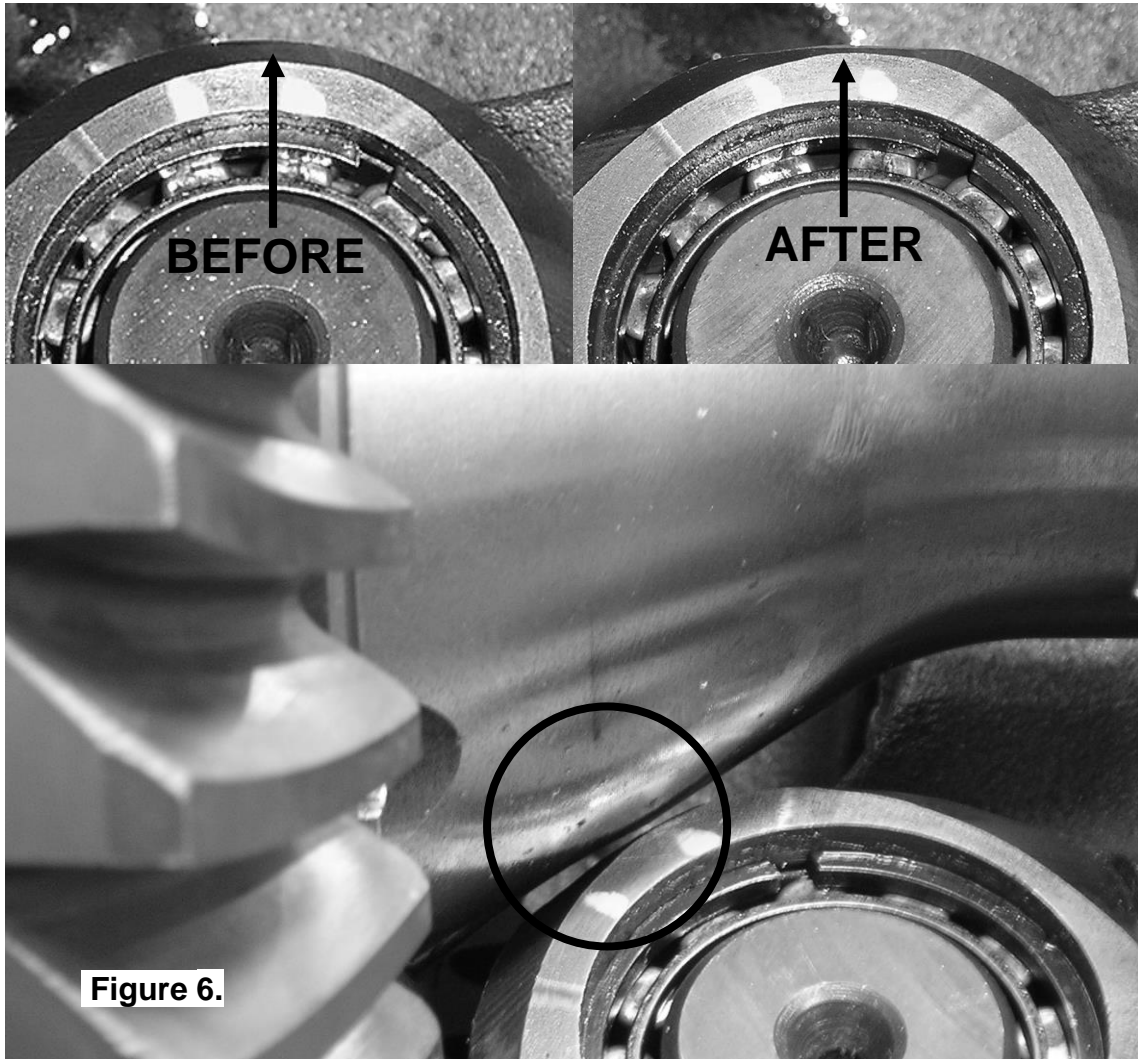

Figure 6.
- Figure 6. shows that approximately 1.5mm was ground from the housing corner near the pinion support bearing to provide 2mm of clearance for the Air Locker